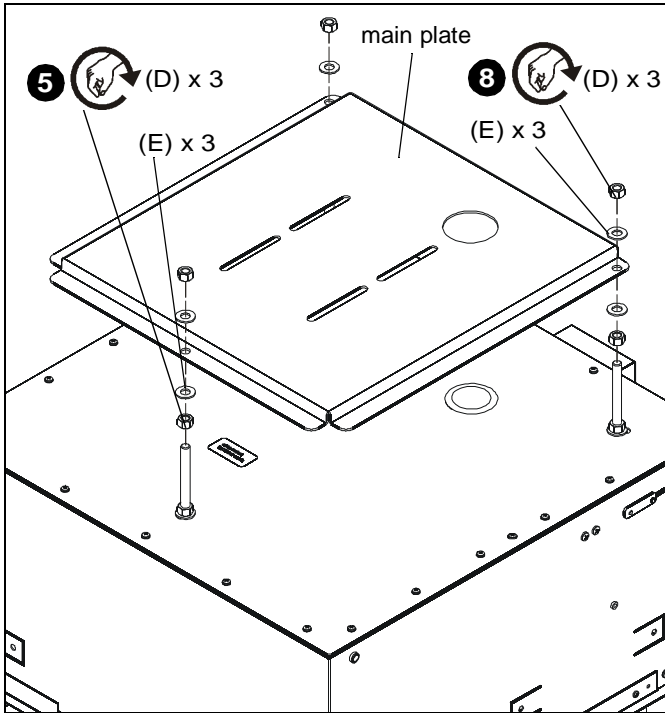

Figure 5
5. Partially thread a 3/8-16" hex nut (D) onto each of three 3/8-16 x 3 1/2" hex head tap bolts (C). (See Figure 5)
6. Place a 3/8" washer (E) over each hex nut. (See Figure 5)
7. Place main plate over three bolts lining up the holes on the outside edge of the plate with the screws. (See Figure 5)
8. Place another 3/8" washer (E) and 3/8-16" hex nut (D) over each bolt. (See Figure 5)